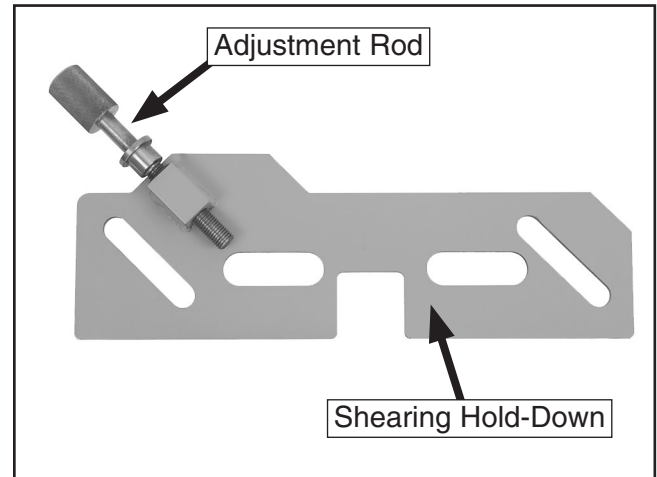

Figure 50. Back side of shearing hold-down and adjustment rod.
3. Turn the hold-down over and unscrew the adjustment rod from the hold-down, then thoroughly clean the threads of the rod and the nut (see **Figure 50**).